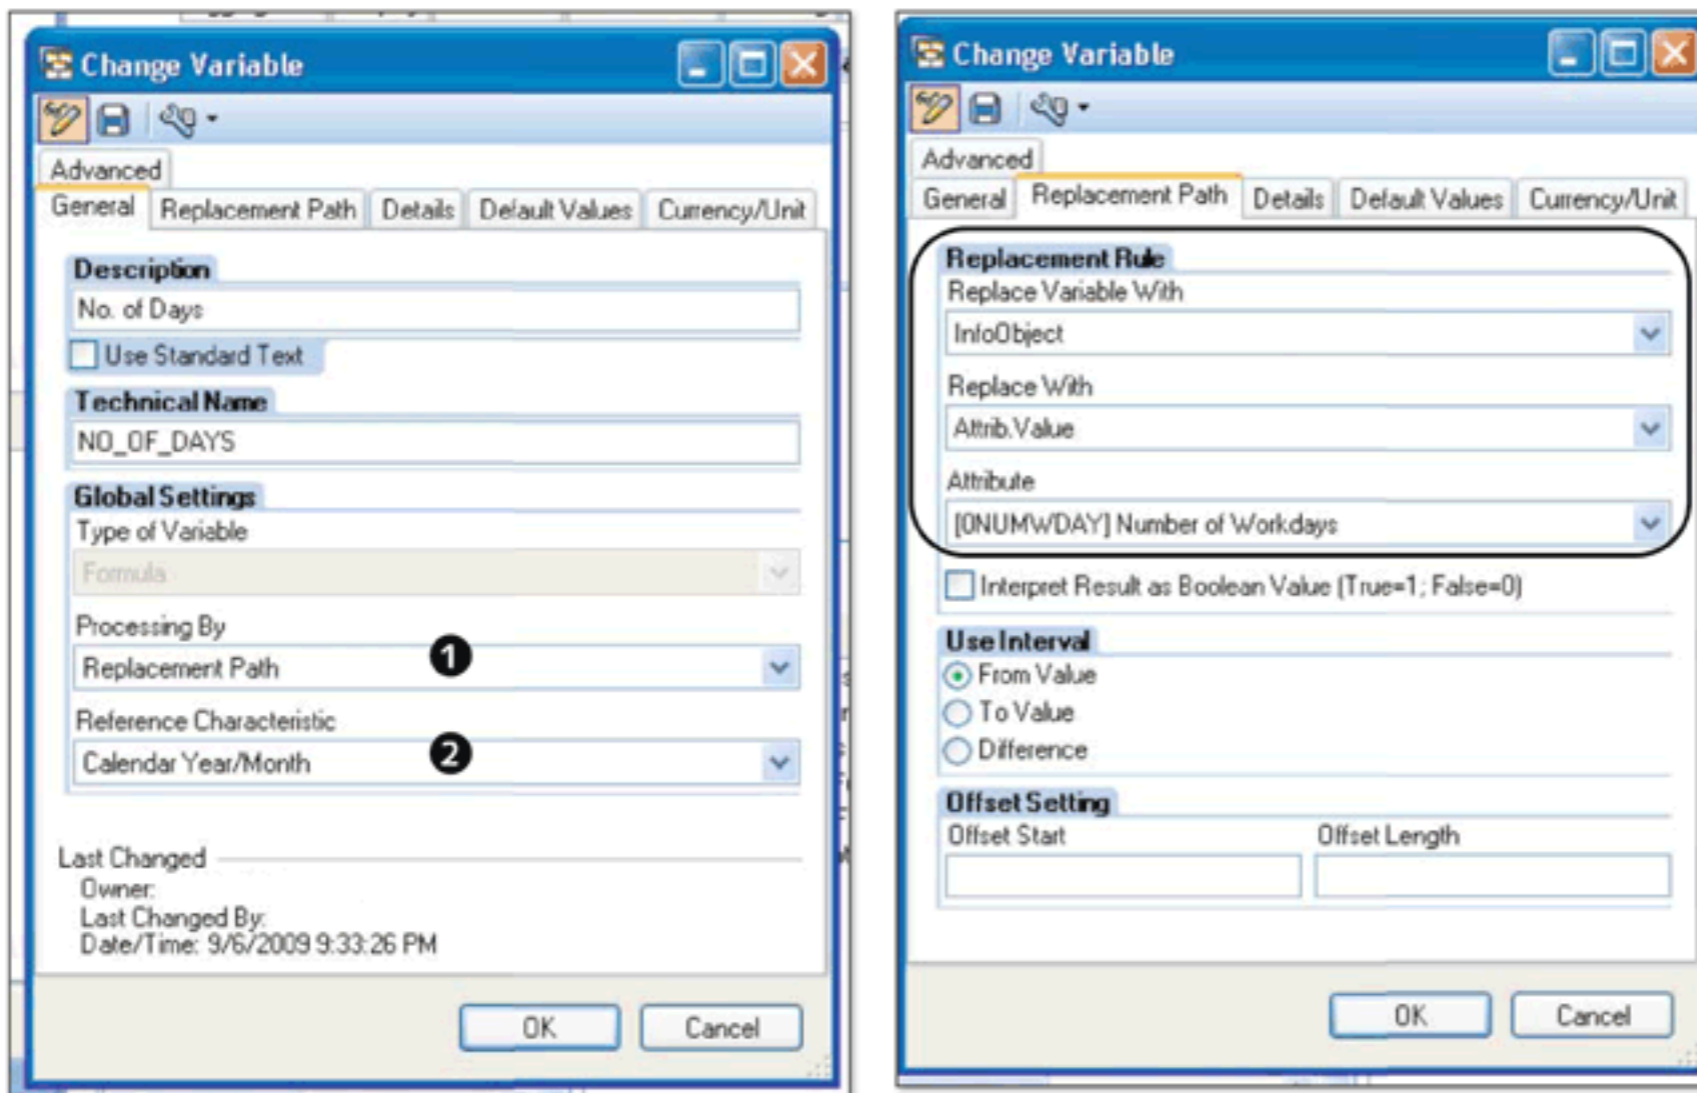

Figure 9.35 Define the Formula Variable
For example, you want to create a formula variable that should return the total number of days for the selected calendar month. To achieve this, you have to set the processing type of the formula variable as REPLACEMENT PATH (1 of Figure 9.35) and the reference characteristic as CALENDAR YEAR/MONTH (2).
The details for this variable are maintained on the REPLACEMENT PATH tab. Maintain the settings as shown in Figure 9.35.